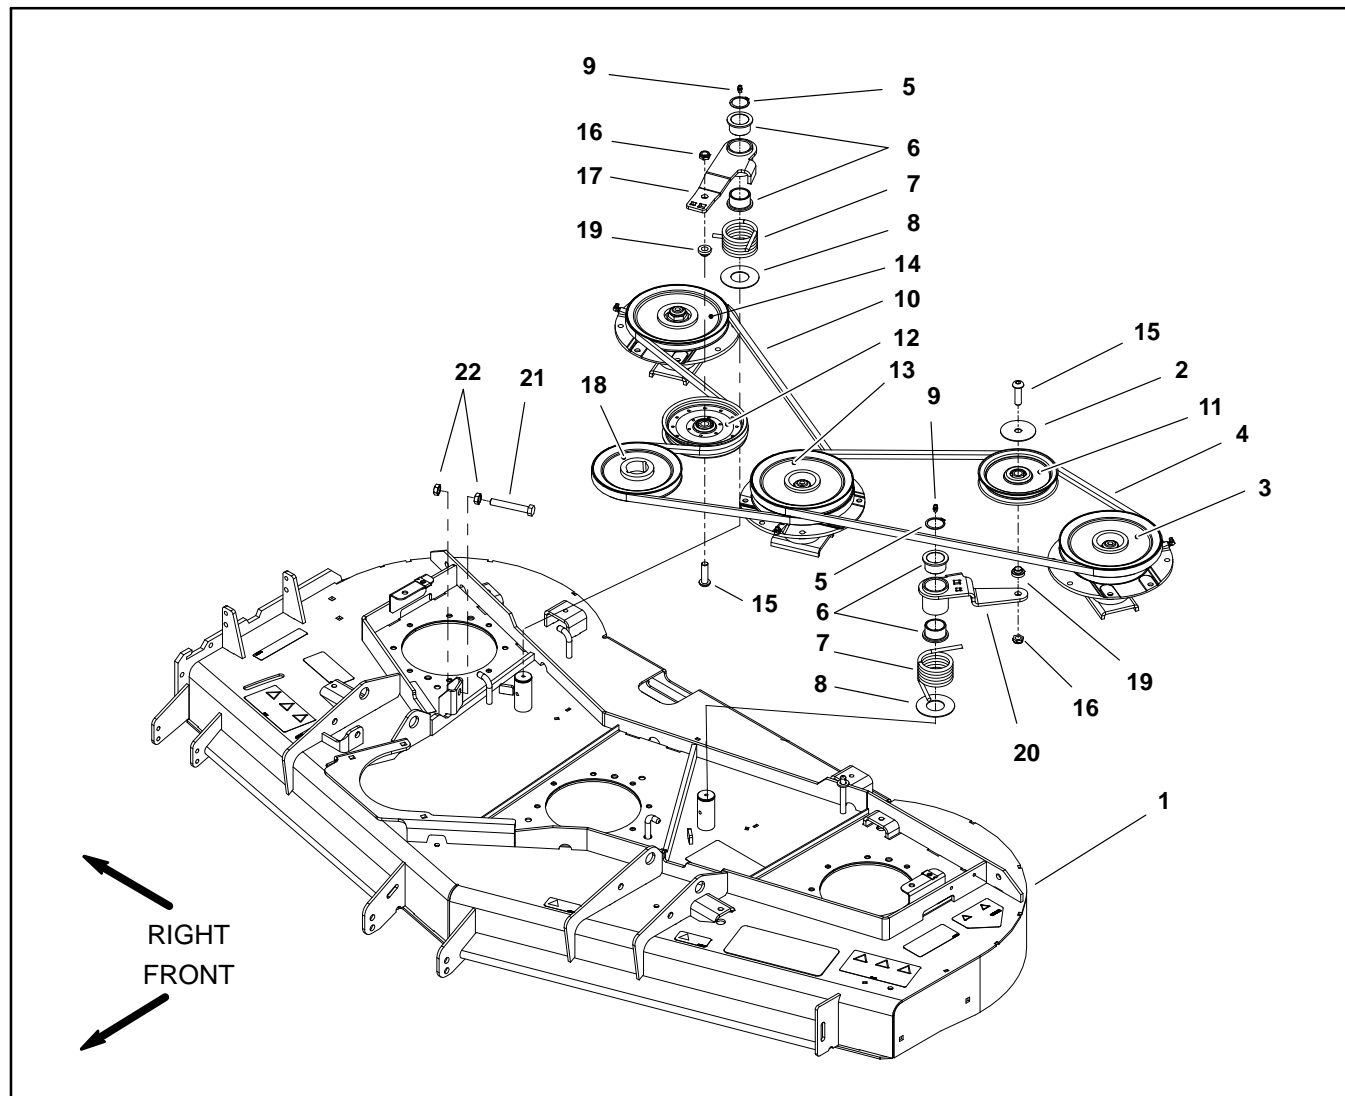

Figure 4
Removal (Fig. 4)
9. Remove idler components as needed using Figure 4 as a guide.
Installation (Fig. 4)
1. Install removed idler components using Figure 4 as a guide. Secure idler arm assembly to cutting deck with snap ring.